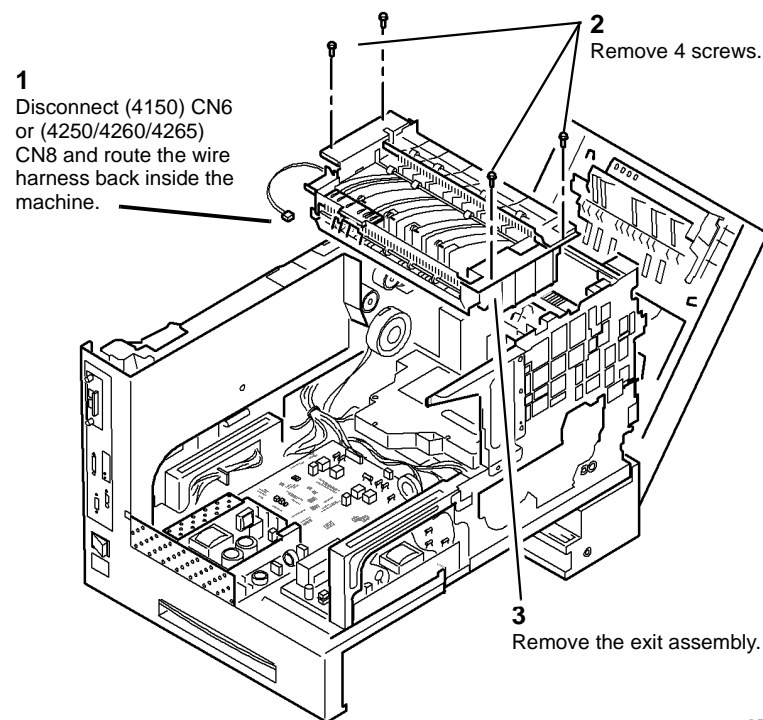

Figure 2 Exit assembly removal
5. Remove the exit assembly, Figure 2.